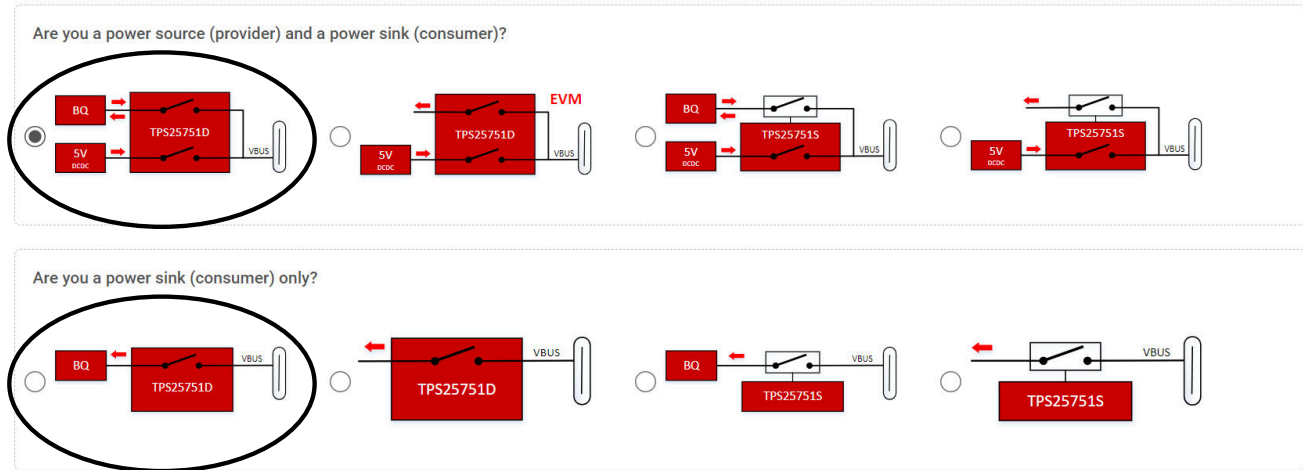

Figure 4-10. TPS25751D + BQ Configurations
- Open the Application Customization Tool and select one of the following TPS25751D + BQ configurations shown in Figure 4-10.